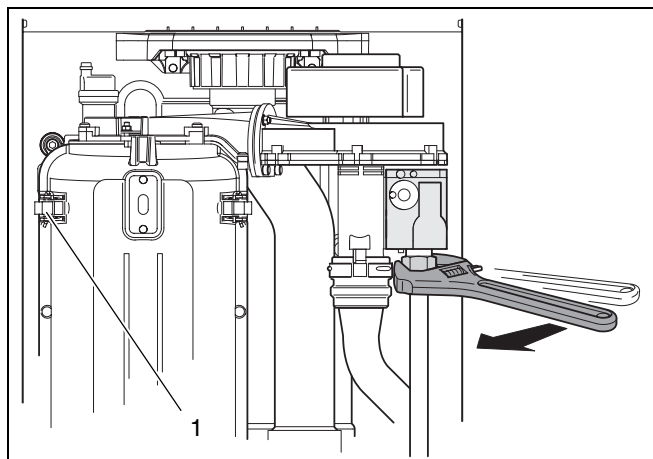

fig. 58 Loosen gas connection
- Loosen the gas connection between the gas supply and the gas air unit (fig. 58).
- Now the front cover of the heat exchanger can be removed by opening the latches (fig. 58, item 1).